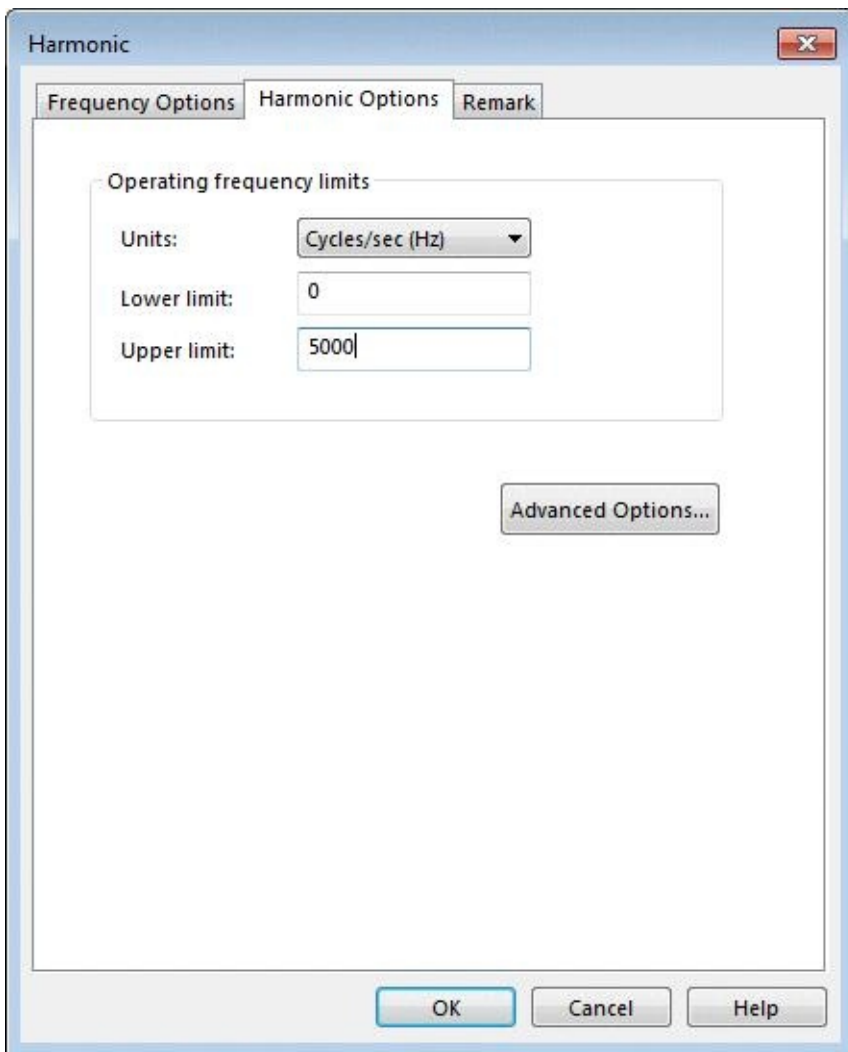

Figure-20. Upper limit for frequencies
- Click on the **Harmonic options** tab and specify the **Upper limit** as 5000 Hz; refer to Figure-20.